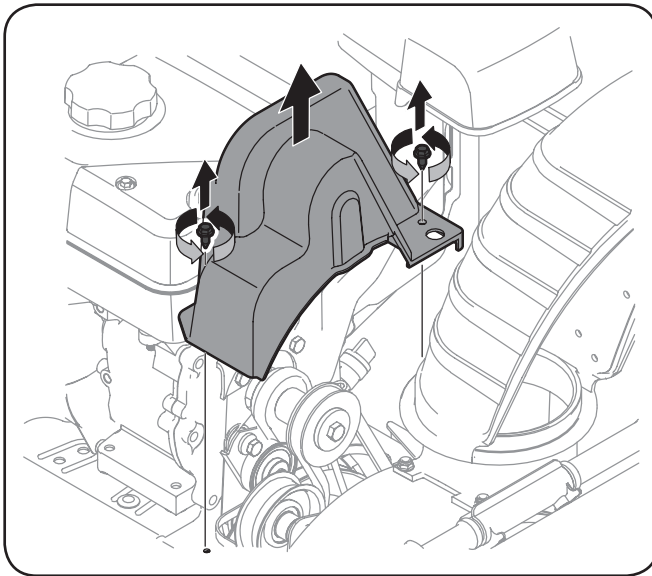

Fig. 7-1
2. Remove the plastic belt cover on the front of the engine by removing the two self-tapping screws. See Fig. 7-1.
2. Remove the plastic belt cover on the front of the engine by removing the two self-tapping screws. Refer to Fig. 7-1.